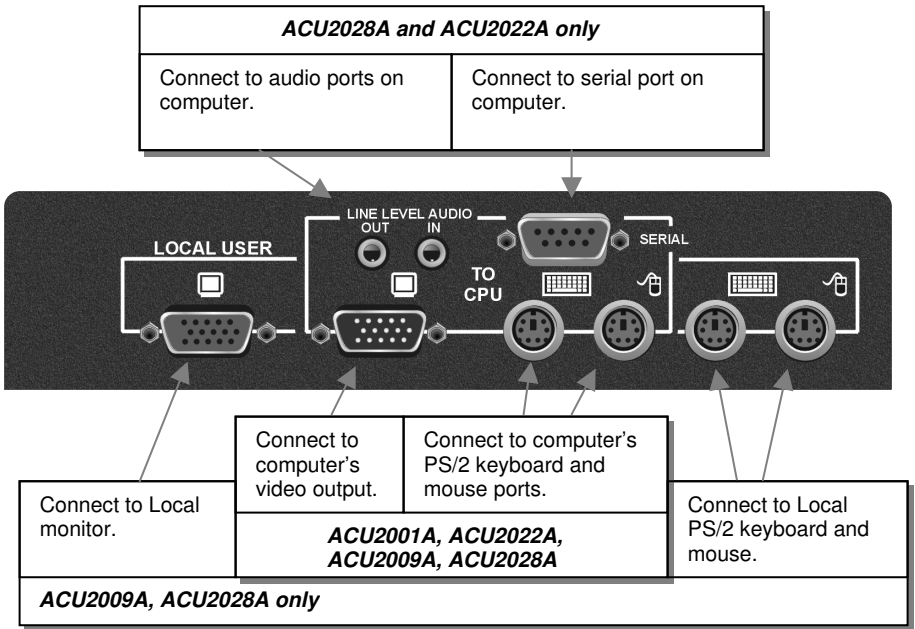
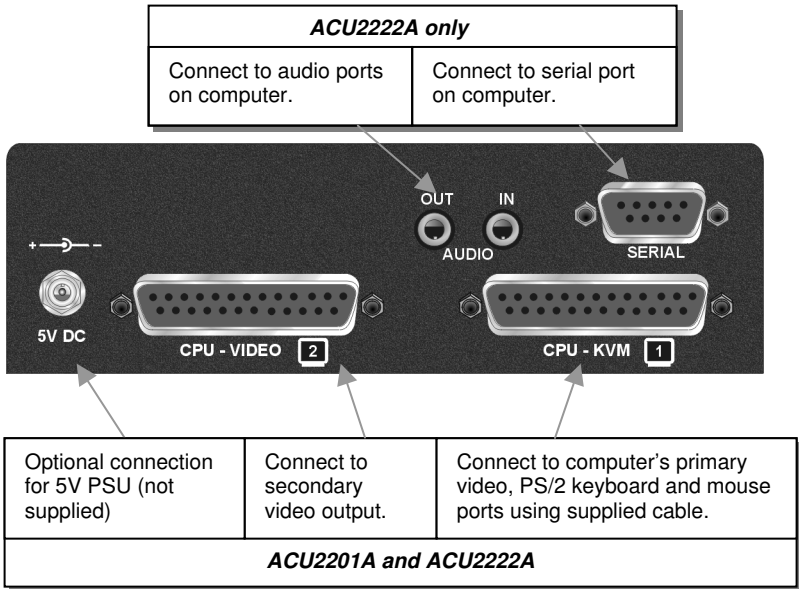

Figure 4
Figure 5
2. Using the supplied CPU KVM cable(s), connect the keyboard, monitor(s) and mouse connectors on the computer (or KVM switch) to the corresponding connectors on the Local unit as shown in Figure 4 for single video units, or Figure 5 for dual video units. Ensure that you attach the keyboard and mouse connectors to the correct ports. The keyboard connector is purple; the mouse connector is green.